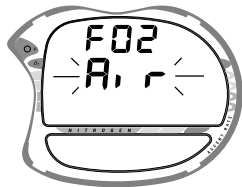

Fig. 18 - Set FO2
- Press and release the Advance (Front) button, **FO2** appears with the value flashing (Fig. 18).